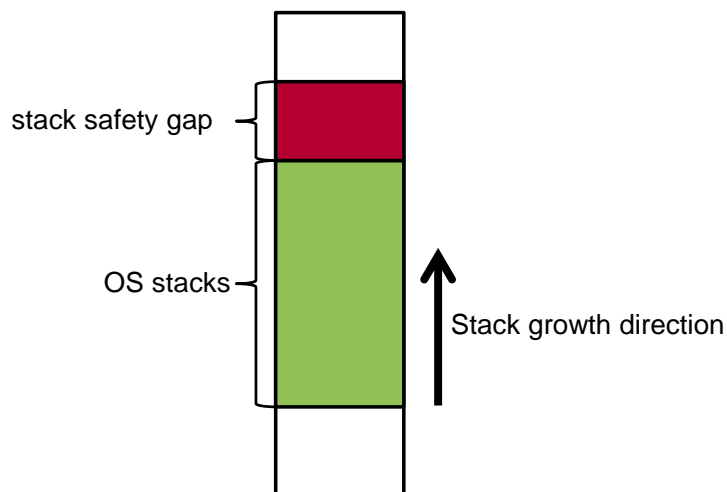

Figure 2-1 Stack Safety Gap
- > A stack safety gap is needed which is linked adjacent to the stacks (in dependency of the stack growth direction; see Figure 2-1). No software parts must have write access to the stack safety gap.